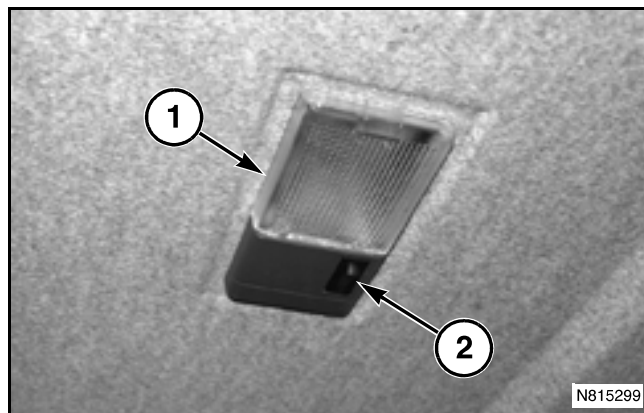

FIG. 10
FIG. 10: The cab interior lamp (1) is located over the operator seat in the cab roof. The cab interior lamp also includes an on/off switch (2) and can be turned on at any time.